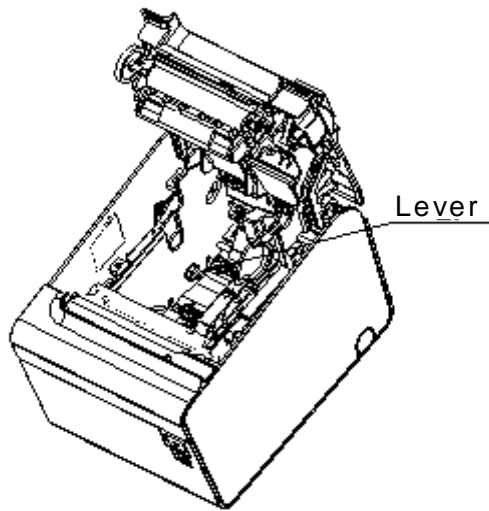

Figure C.2 Changing the Near-end Adjusting Position
3. Change the paper roll near-end sensor position to detect the paper near-end correctly when the printer is placed horizontally. (Refer to Figure C.2.)